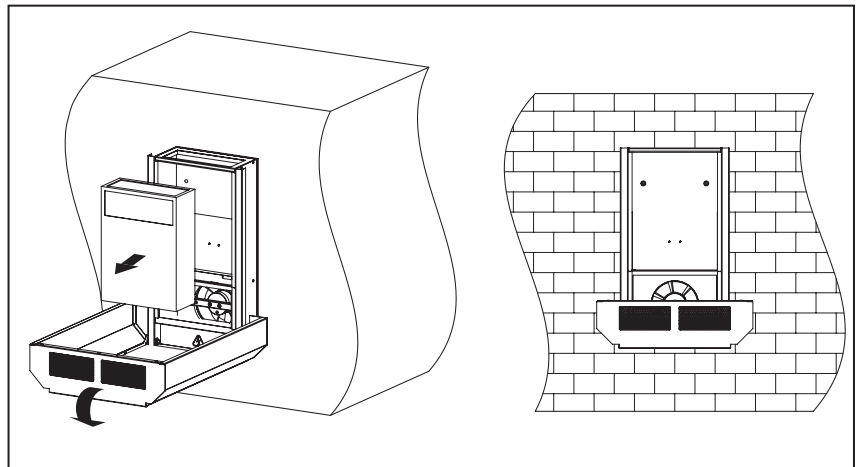

Fig. 8.
- a) take off the front cover and remove the heat exchanger, fig. 8;